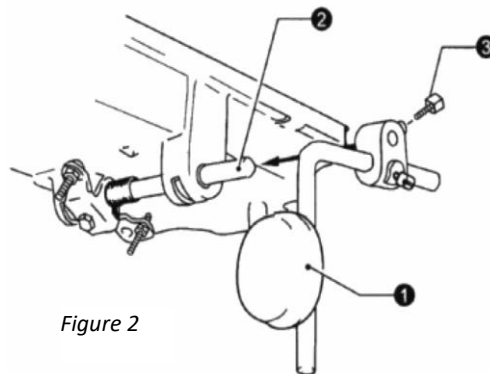

Figure 2
Insert the knee control block (1), hand bar and joint into the chains (2) then tighten the screws (3) lightly. See Fig.2.